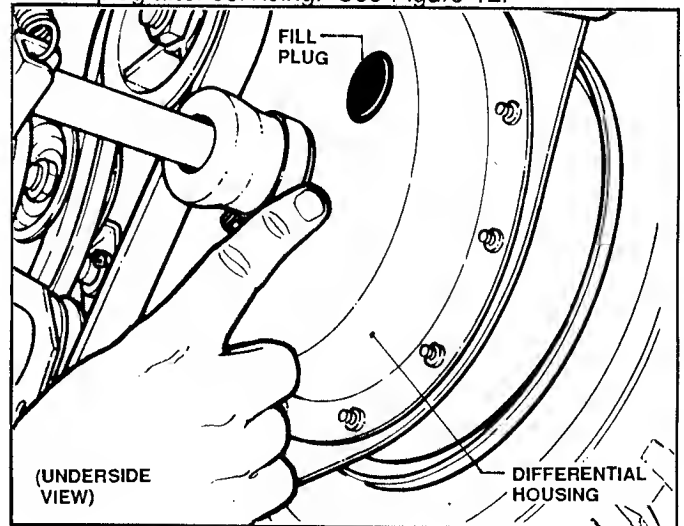

FIGURE 12
- **DIFFERENTIAL:** Remove plug from differential housing and add 2 oz. of **SNAPPER O** grease. Install new plug after servicing. See Figure 12.